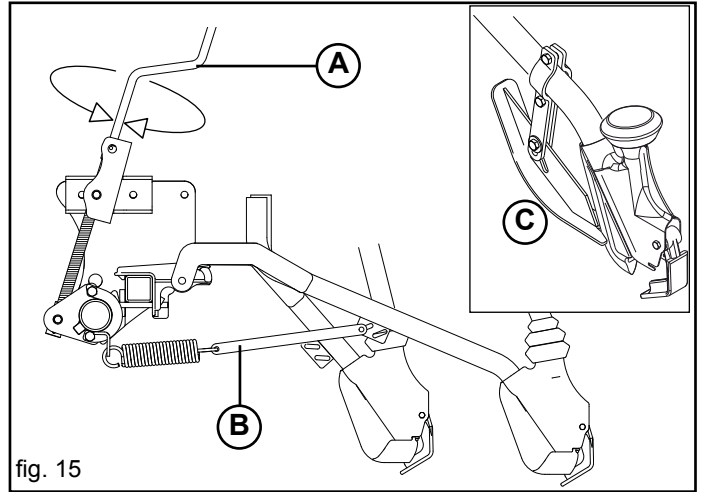

fig. 15
The seeding depth is adjusted simultaneously for all planting devices through a crank (Fig. 15). By rotating it counterclockwise, a stronger pressure can be exerted on the planting devices to the ground by means of the extension springs, thus allowing deeper seeding.
You can further adjust the pressure, separately, changing the position of the tie-rod (B Fig. 15).
**OPTIONAL:** The depth is determined by changing the position of the limiter block (C, Fig. 15), only with hoe coulter (furrow openers).